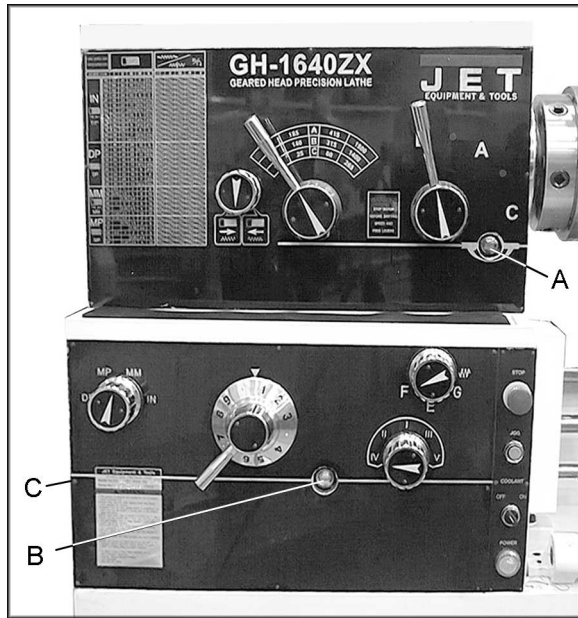

Figure 4
1. **Headstock** – Oil must be up to indicator mark in oil sight glass (A, Figure 4). Top off with Mobil DTE® Oil Heavy Medium. Fill by removing the plug on top of the headstock. To drain, remove drain plug on the left side of the headstock at the lower rear corner. Drain oil completely and clean out all metal shavings. Refill after the first month of operation. Then change the oil in the headstock every two months.
2. **Gearbox** – Oil must be up to indicator mark in oil sight glass (B, Figure 4). Top off with Mobil DTE® Oil Heavy Medium. To add oil to the gearbox, remove two screws on the top cover and remove cover. To drain, remove drain plug (C, Figure 4) on the left side of the gearbox. Drain oil completely and refill after the first three months of operation. Then change oil in the gearbox every six months.